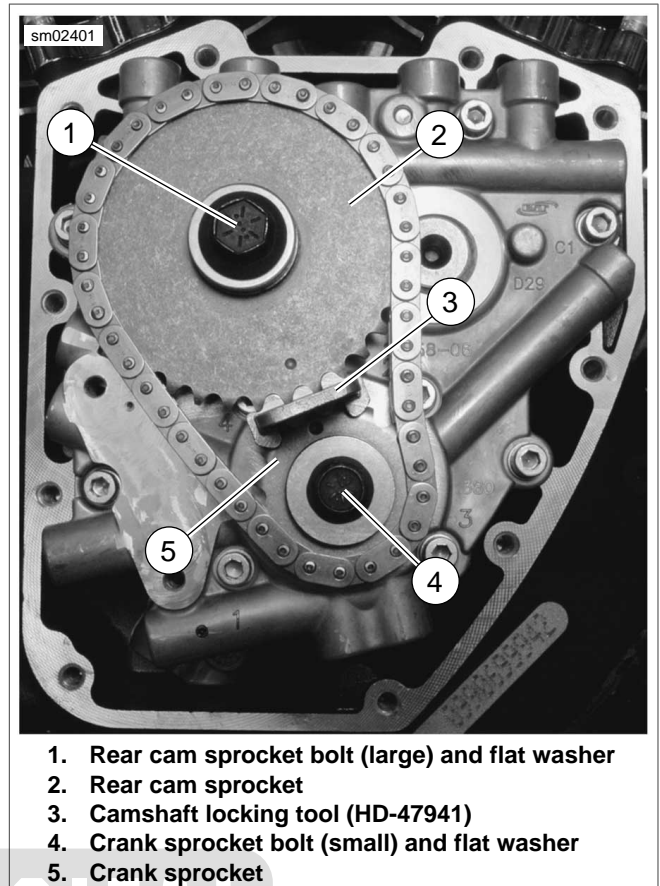

Figure 3-48. Cam Support Plate Assembly
3. See Figure 3-48. Install CRANKSHAFT/CAMSHAFT SPROCKET LOCKING TOOL (Part No. HD-47941) between cam sprocket (2) and crank sprocket (5).